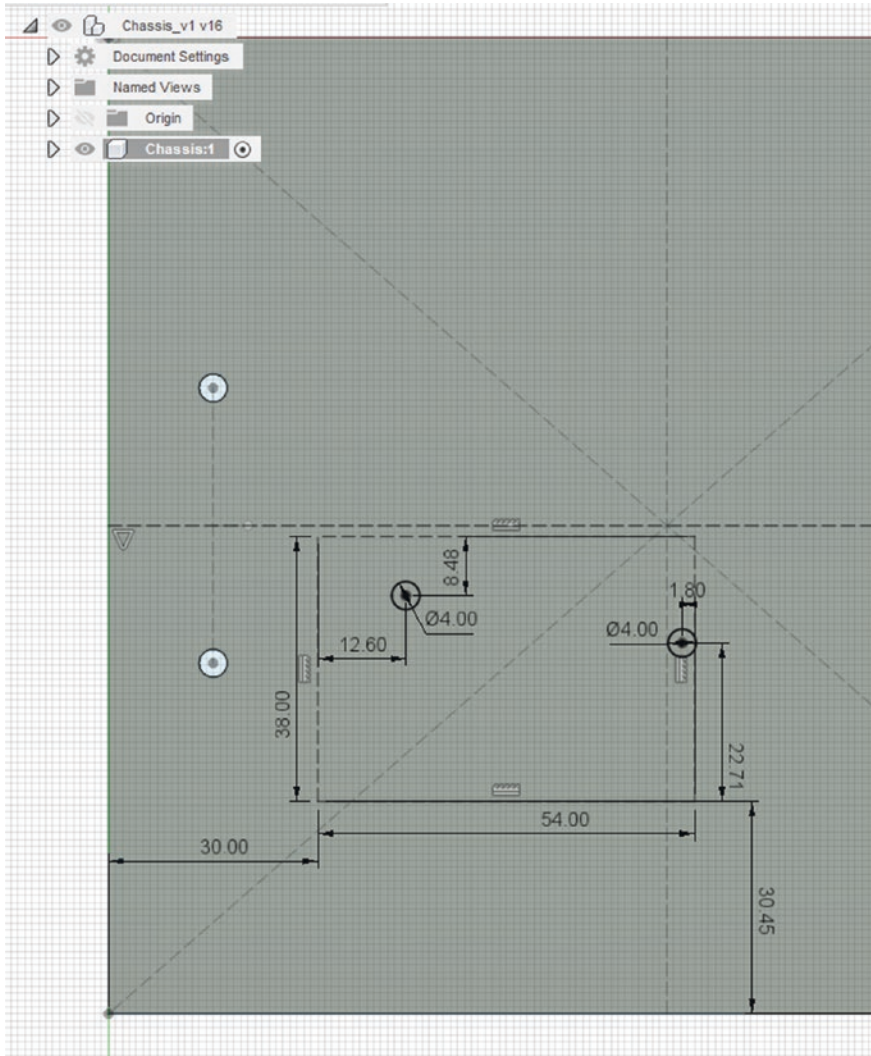

Figure 6-54. Add the holes for the MEGA 2560 Pro
7. Let's make a spot for the Arduino to go. We need two holes again. Follow Figure 6-54. Remember you want to make sure the rectangle and holes are constrained. You can tell this sketch is constrained because all lines are black.